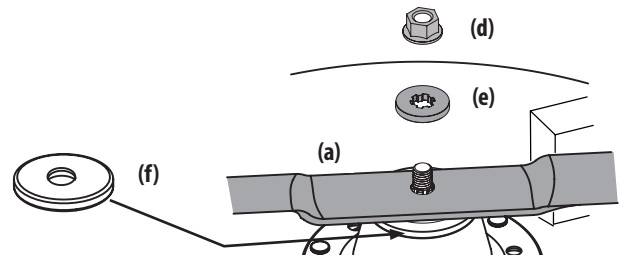

Figure 44
- Remove the flange nut (d) and flat washer (e) securing the blade (a) to the mower and remove the blade (Figure 44).
NOTE: 36 Inch Deck Only - A cap (f) is present between the blade and the mower. Before assembly, ensure the cap is in place before installing the blade (Figure 44).